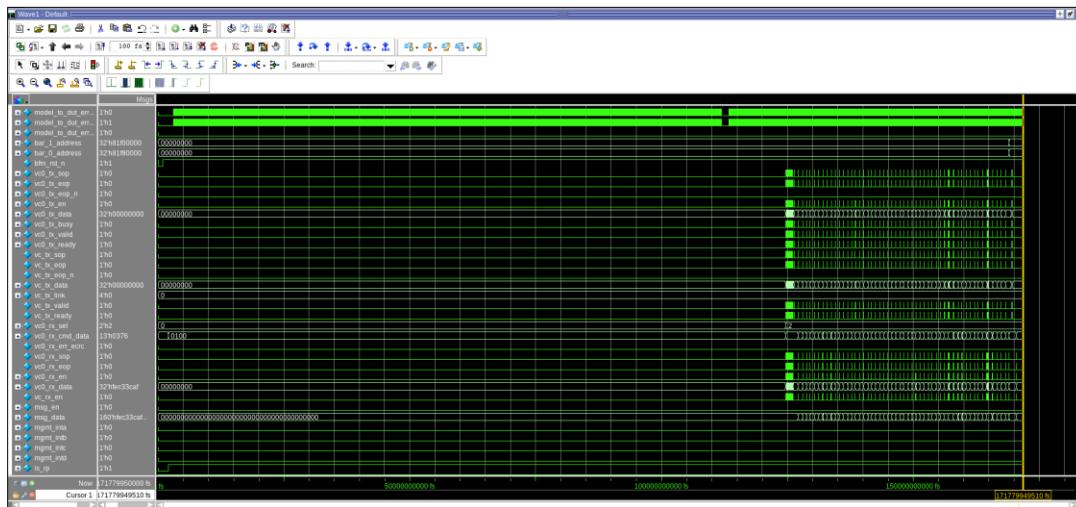

Figure 6.25. Simulation Waveform
15. The simulation run completion is indicated by *SIMULATION STATUS* of *ALL TESTS PASS* or *ERRORS DETECTED* in the QuestaSim transcript window. Figure 6.25 shows the example of a simulation waveform.